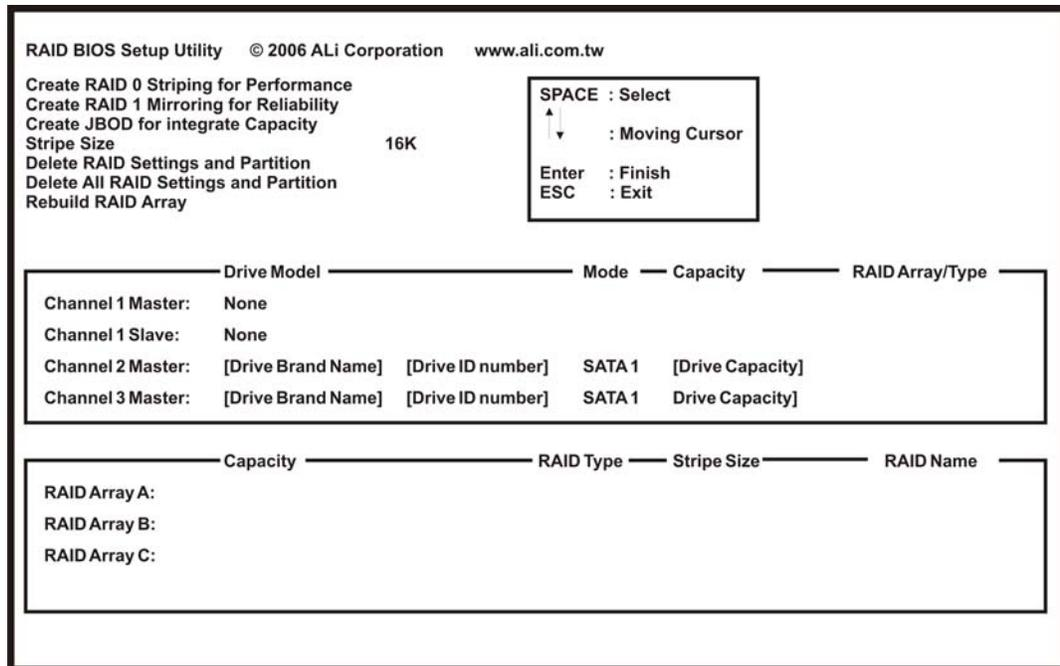

Figure E-2: RAID BIOS Setup Utility
- Step 6: Delete RAID settings and partitions.** The **RAID BIOS Setup Utility** in **Figure E-2** appears. Before configuring the array select the “**Delete All RAID Setting & Partition**”.
Step 7: **Configure the RAID settings.** Use the RAID BIOS Setup Utility in **Figure E-2** to configure the RAID array. Brief descriptions are given below.